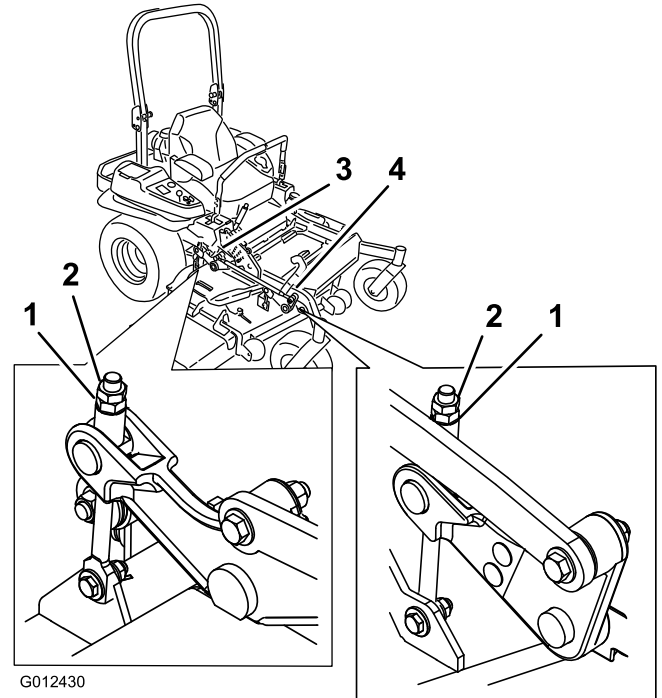

Figure 95
10. For mower decks shown in Figure 95, fine-tune the adjustment nut on the front deck lift assembly by turning it (Figure 95).
17. Fine-tune the adjustment nut on the front deck lift assembly by turning it (Figure 95).